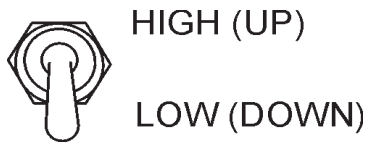

Figure 47. Engine Speed Switch (Low)
9. Place the engine speed switch in the “LOW” position (Figure 47).